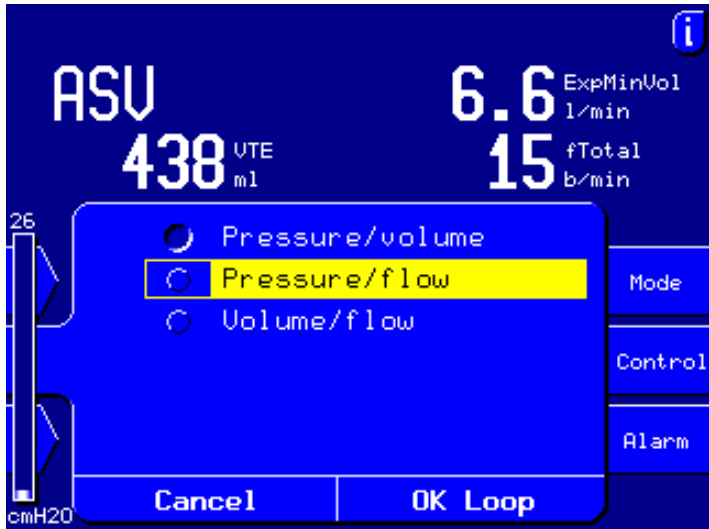
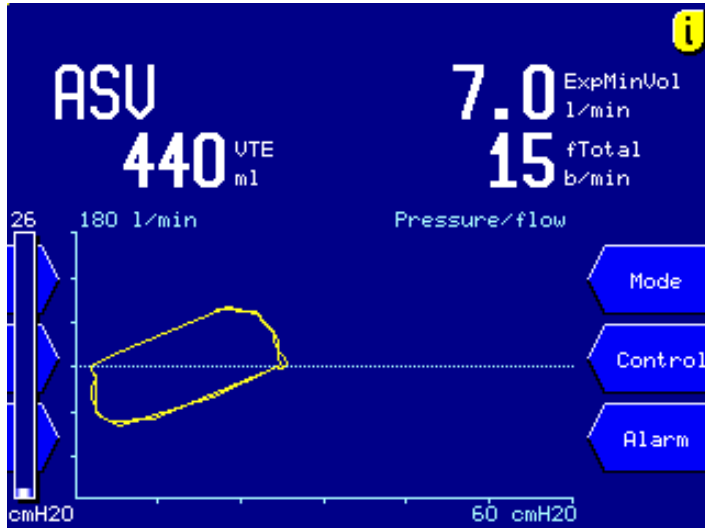

Figure 5-6. Loop selection window
Figure 5-7. Loop screen
3. The loop selection window is displayed (Figure 5-6). Select and activate the desired X and Y axis parameters, then confirm. The loop is displayed (Figure 5-7).